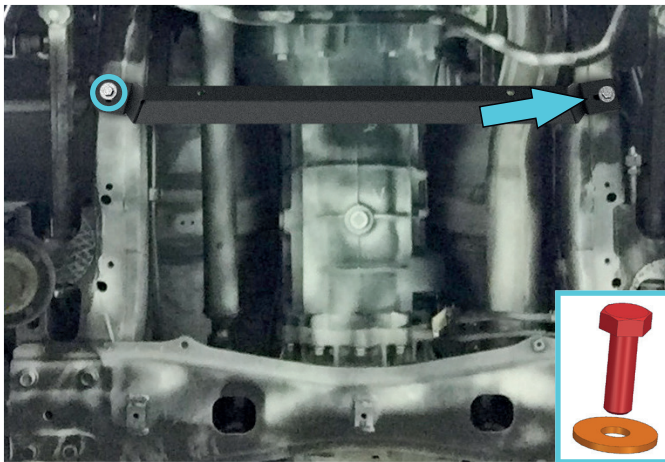

Fig. 3
3. Slide the left part of mounting bracket (item 2) on previously installed bolt M8x1.25x25 from step 2. Secure the right part of mounting bracket using bolt M8x1.25x25 with washer M8 (items A, B) as shown in fig. 3.